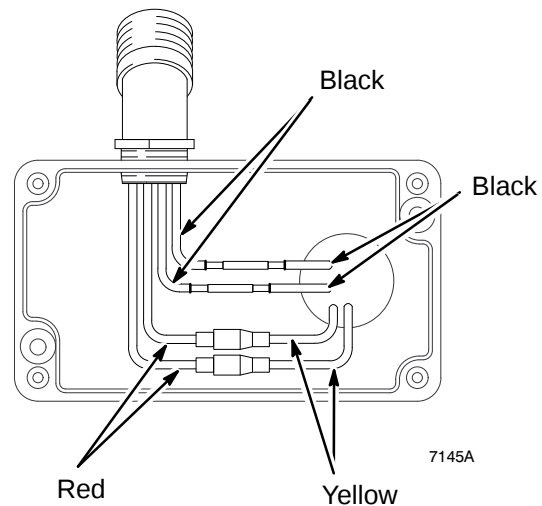

Fig 14
3. Loosen outlet cover on pressure control wiring box. Disconnect motor leads. See Fig 14.
4. Loosen black conduit (22) from pressure control fitting and pull out wires
5. Remove hose (47) from rear of pressure control (116).
6. Remove hose (121) and 45° swivel union (119) from front of pressure control (116).
7. Support pressure control (116) and carefully remove motor mount screws (37). Remove pressure control.
8. Install new pressure control (116) with screws (37).
2. Remove motor shield (14). Remove front cover (31). Disconnect hose (47) at pump. Disconnect drain hose (101) from pump (39).
3. Remove outlet cover on pressure control wiring box. Disconnect four motor leads. See Fig 14.
4. Unscrew conduit connector (125) from motor and pull motor leads from conduit (22).
5. Remove screws (51) from recess of drive housing.
6. Remove screws (21 and 30) from motor bell (F).
7. Use a plastic mallet to tap displacement pump (39) from rear to loosen drive housing (18) from motor bell (F). Pull off drive housing.
**NOTE:** To avoid damage to the drive housing: Do not drop the gear cluster (9), which may stay engaged in the motor bell or in the drive housing. Do not lose the thrust balls (10) or drop them between gears. The balls usually stay in the shaft recesses, but could be dislodged. If the balls are not in place, the bearings wear prematurely.
8. Lower pressure control (116) by unscrewing motor mounting screws (37).
9. Lift off motor (1).
10. Mount and center new motor on frame and attach pressure control (116) with motor mounting screws (37).
11. Insert motor leads through connector (125) and conduit (22) to pressure control. Screw connector (125) two or three threads into motor. Tighten locknut up to motor. Connect four motor leads. See Fig. 14.
12. Liberally grease gear cluster (9) and pinion gear (G) and pack all bearings in motor bell. Be sure thrust balls (10) are in place. (One ball is included with a replacement drive housing.)
13. Place bronze-colored washer (18b) and then silver-colored washer (18a) on shaft protruding from big gear in drive housing (18).
14. Align gears and push drive housing (18) straight onto motor bell (F) and locating pins.
- △1 Seals (93) located inside conduit (22)